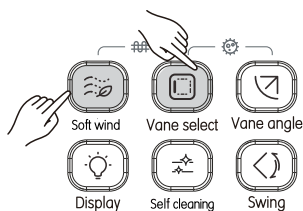

Figure 3.20
- 1) Press  and  at the same time to start auxiliary heater (see Figure 3.20), and the screen will display the icon  ;